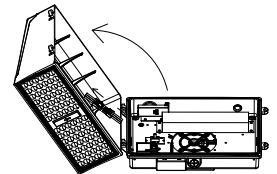

Figure 23
3. Open the fixture and disconnect the connection terminals between the LED driver and LEDs. Remove the heat sink from the back plate. (see Fig. 23)